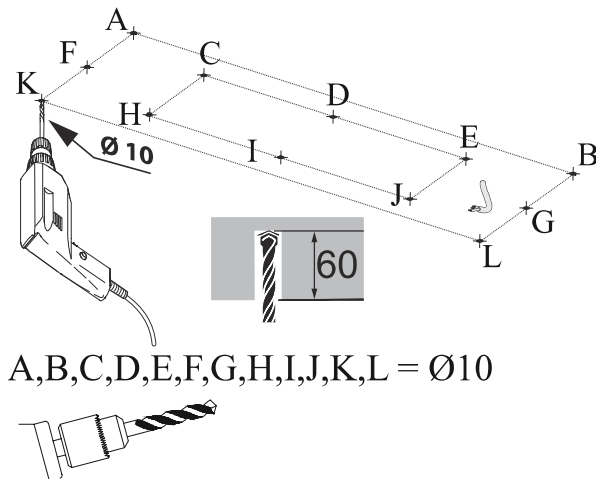

Fig. 22
3. Drill the points marked on the installation template, the holes to which the device will be assembled (A, B, C, D, E, F, G, H, I, J, K, L) with a Ø10mm tip. The hole depth must be at least 60 mm (Fig. 22).